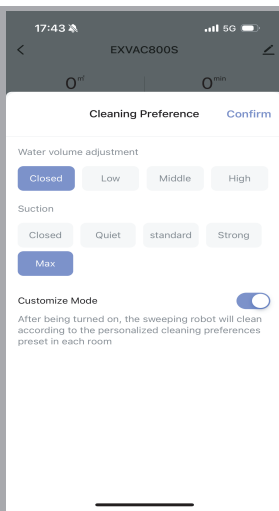

Fig.13
C). Cleaning Preference: click the icon  to set the water volume and suction level, and also turn on / off the customized mode (Fig.13).